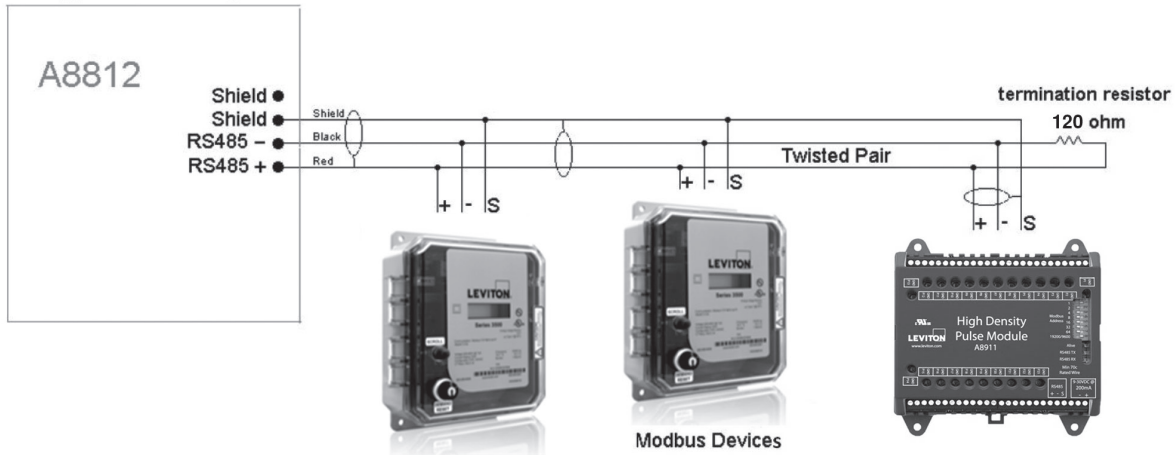

Figure 1
4. Connect a PC to the DAS using a Cat 5 or better ethernet cable. (Figure 1)